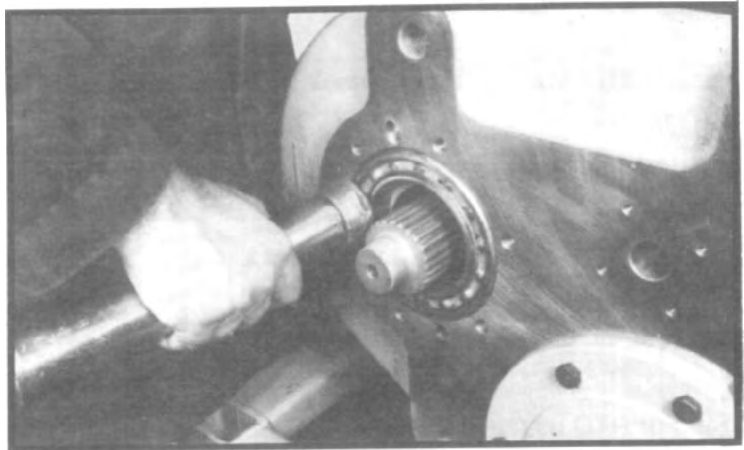

Fig. 91
5. Tap the front ball bearing into the housing using a suitable driver. (See VII-A-5 and fig. 91.)